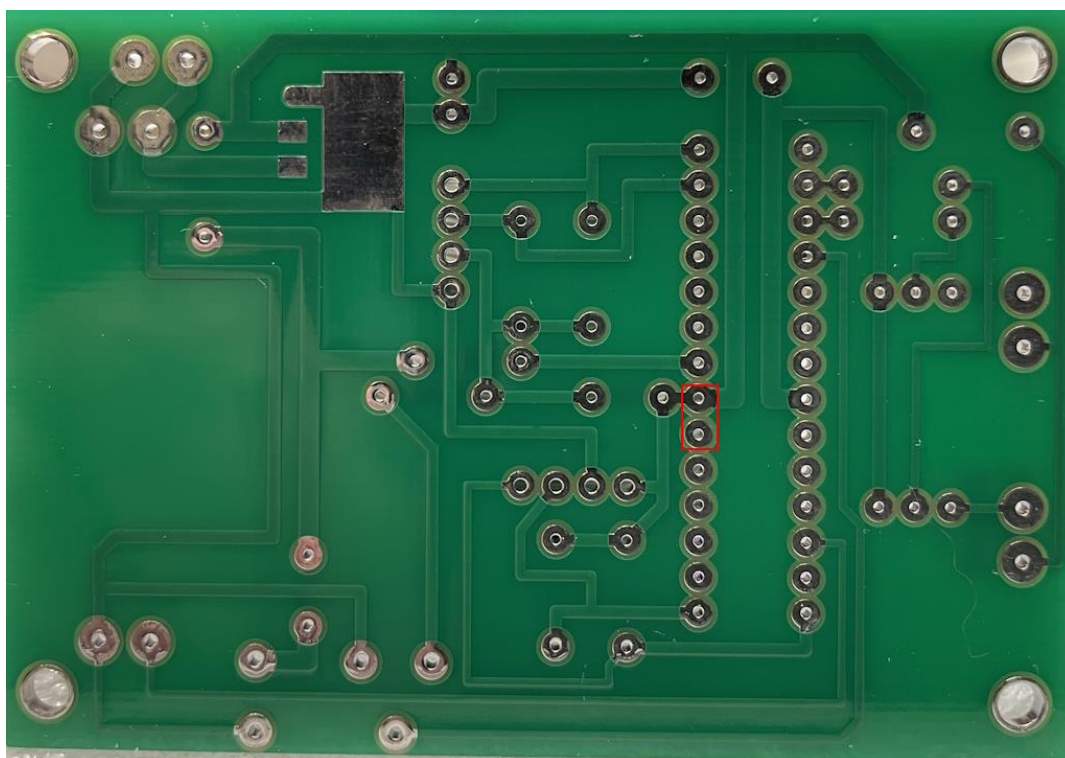

Figure 4- Unpopulated Bottom of PCB
- The 2 pins on the base of the PCB must be linked/soldered due to a slight issue in the design. These are clearly marked in Figure 4.